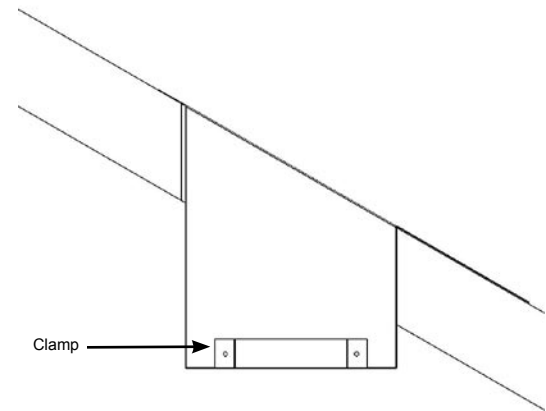

FIGURE 21
8. Place the Vertical Support Clamp (5000576), around the top of the hole in the bottom of the Support Box. See Figure 21.